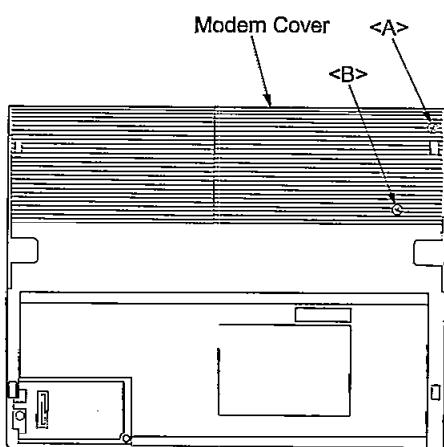

Figure 6
1. Remove two screws <A> (Shaft screw) and  ( $\varnothing 2 \times 8$  mm). (Refer to Figure 6)
2. Carefully raise the MODEM cover and remove it. (Refer to Figure 6)